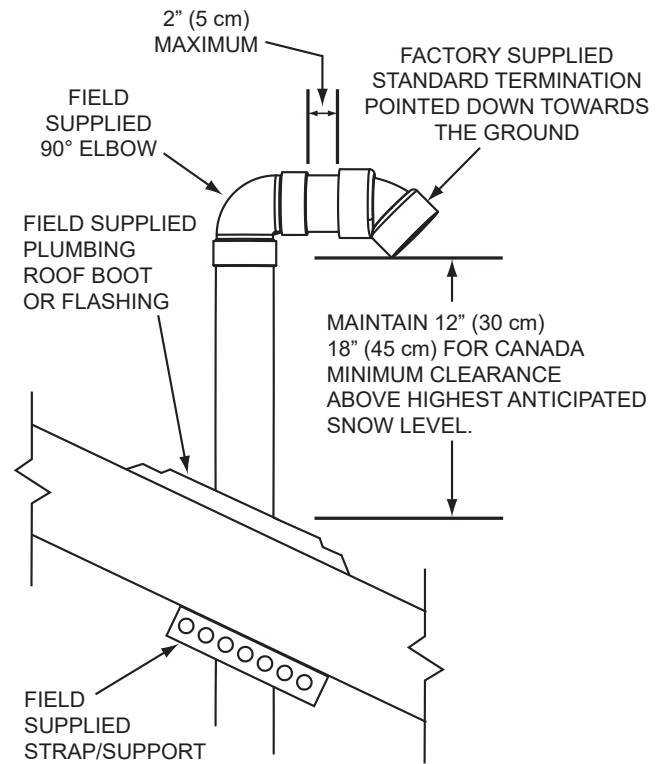
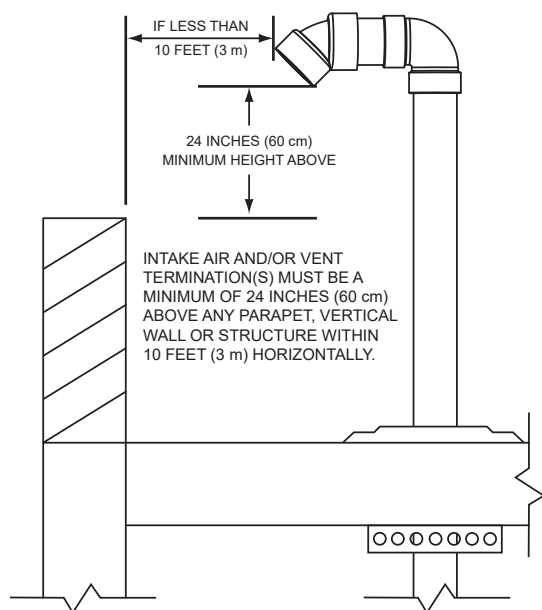
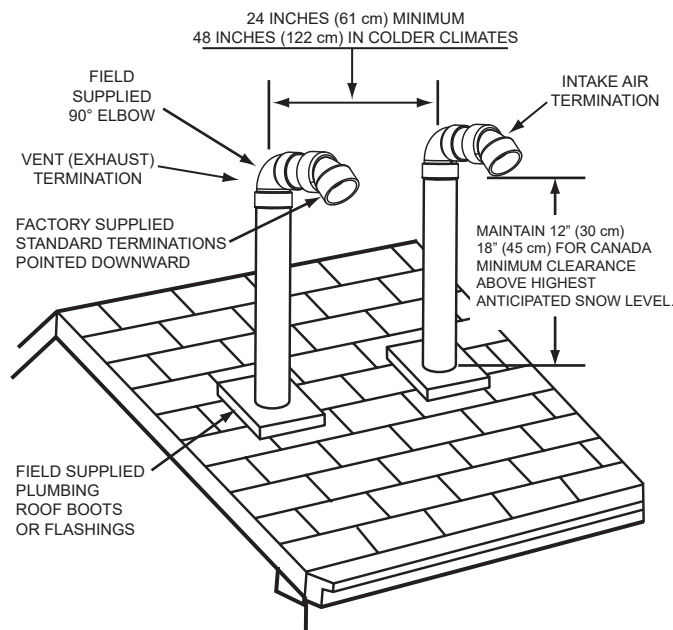

Figure 31. Vertical Termination(s) Installation
Figure 32. Vertical Termination(s) Flat Roof Parapet Clearance
Figure 33. Vertical Termination - Direct Vent
2. If installing only the vent (exhaust) piping in a power-vent configuration vertically through the roof, ensure that all exterior vertical clearance requirements shown in **Figure 31** and **Figure 32** (page 35) are being maintained. These clearances and those cited by local and national codes must be maintained.
wall, or structure within 10 ft (3 m) horizontally. See **Figure 32**.
3. If installing both intake-air and vent piping in a direct-vent configuration vertically through the roof, ensure that all exterior vertical clearance requirements shown in **Figure 31**, **Figure 32** (page 35), and **Figure 33** (page 35) are being maintained. These clearances and those cited by local and national codes must be maintained.
Note: On flat roof installations, the intake-air and the vent terminations must be a minimum of 24 in (60 cm) above any parapet, vertical wall or structure within 10 ft (3 m) horizontally. See **Figure 32**.
- A. The vent termination must be oriented facing downward as shown in **Figure 31** and **Figure 32**.
- B. The bottom edge of the vent termination must be a minimum of 12 in (30 cm), 18 in (45 cm) in Canada, above the average or expected snow level as shown in **Figure 31**.
- A. The intake-air and vent pipes must penetrate the same side of the roof as shown in **Figure 33** (page 35).
- B. The intake-air and vent terminations must be oriented facing downward and in the same direction as shown in **Figure 33** (page 35).
- C. The intake-air and vent terminations must have a minimum separation of 24 in (61 cm) measured on the center line, as shown in **Figure 33**. In colder climates, this separation should increase to at least 48 in (122 cm).
- D. The bottom edge of the intake-air and vent terminations must be a minimum of 12 in (30 cm), 18 in (45 cm) in Canada, above the average or expected snow level as shown in **Figure 31** below.
The distance between the closest vent and intake-air terminations must be a minimum of 24 in (61 cm) as shown in **Figure 33** (page 35). In colder climates, this separation should be increased to at least 48 in (122 cm).
8. Suspend the pipe(s) through center of hole using field-supplied metal strapping or equivalent support materials as shown in **Figure 31**.
9. Slide a roof boot or equivalent flashing over the pipe, secure the roof boot or equivalent flashing to the roof (see **Figure 31**), and seal around the flashing.
in **Figure 31**. The short section of pipe that connects between the field-supplied 90° elbow and the factory-supplied termination must not be excessive in length. The exposed portion of this pipe shall be no more than 2 in (5 cm). See **Figure 31**.